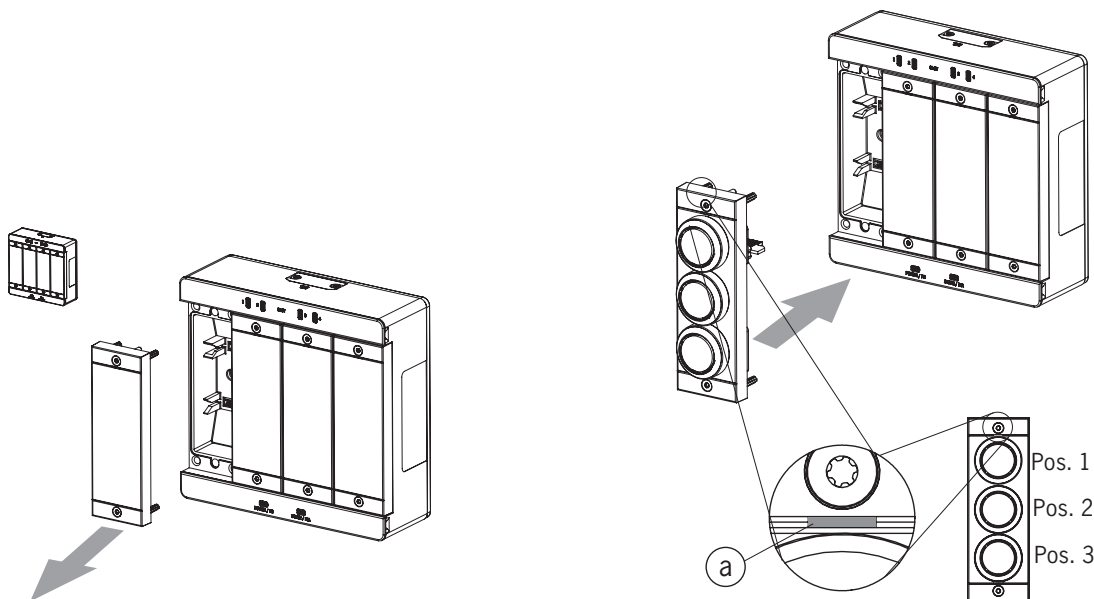

Fig. 5: Mounting submodule
- › Pay attention to the alignment of the submodule. See marking (a) in Fig. 5: *Mounting submodule*. Submodules can also be installed rotated by 180°. The marking (a) always indicates the first position to be equipped. This means the position of pushbutton S1 in the example below.